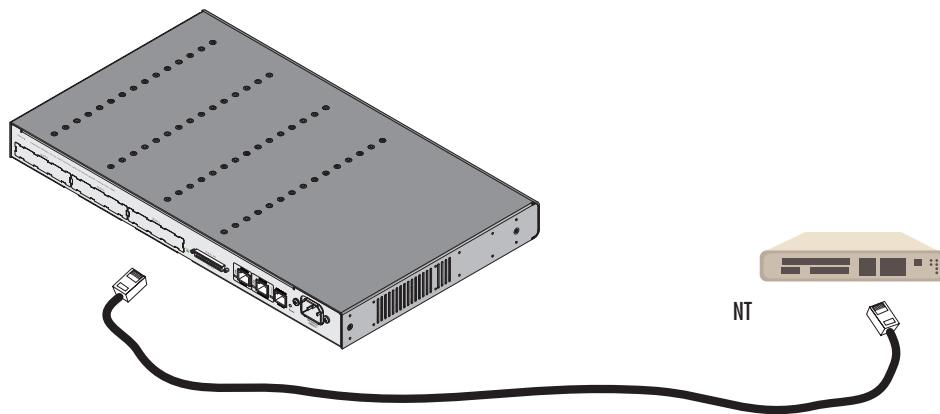
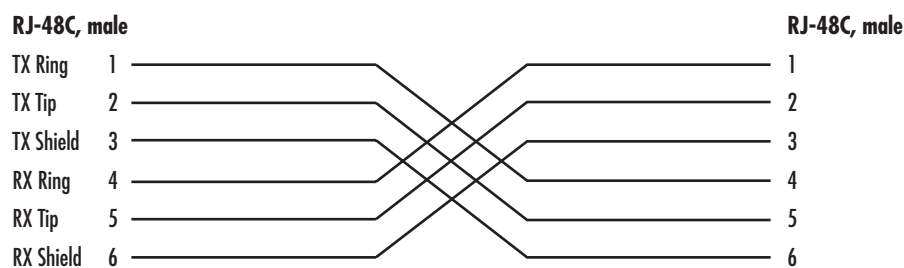

Figure 101. Connecting an E1 PRI port to an NT
Figure 102. E1 crossover cable
The E1 PRI is usually connected to a PBX or telco switch—local exchange (LE). Type and pin outs of these devices vary depending on the manufacturer. In most cases, a straight-through RJ-45 to RJ-45 can be used to connect the PRI with a PBX (an NT) (see figure 101). A cross-over cable is required to connect to an LE, as illustrated in figure 102.